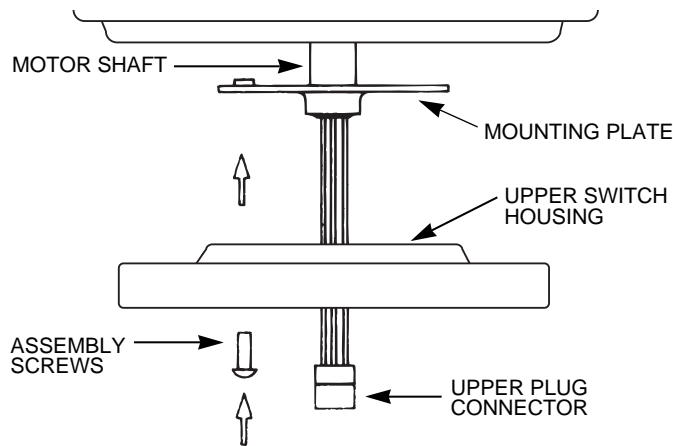

FIGURE 10
Assemble the upper switch housing to the mounting plate using the (3) screws and lockwashers which you removed from the mounting plate. Tighten the screws very securely. See Figure 10.
**CAUTION:** Failure to properly tighten the (3) upper switch housing assembly screws could result in the switch housing falling.